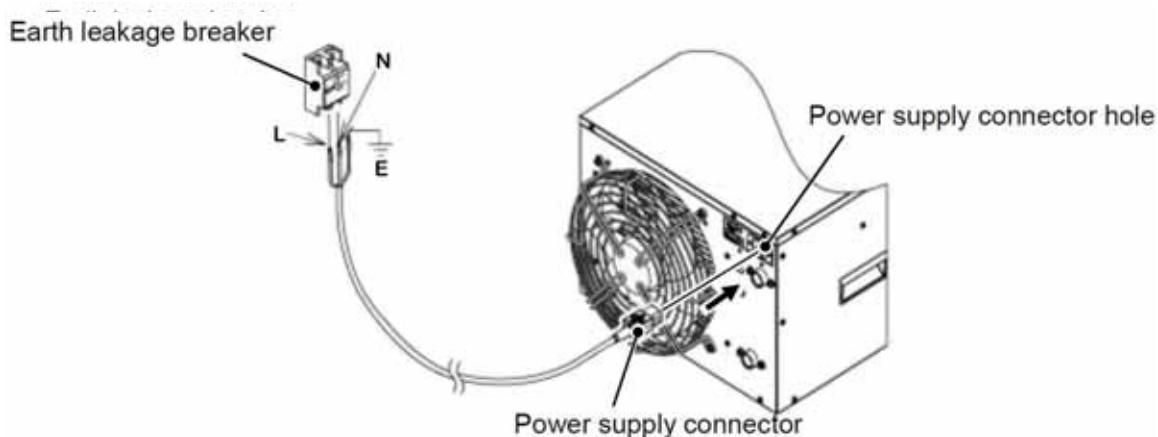

Figure 4-4. SMC Chiller Power Connections
14. Connect the crimped terminals to the secondary side of the earth leakage breaker and grounding on the facility power supply. See Figure 4-4.